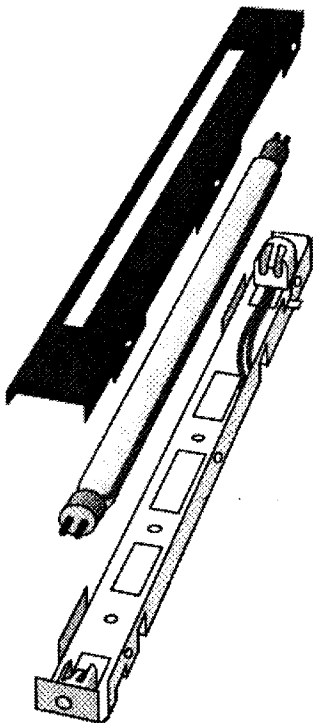

Fig. 5.7 Removing the lamp from the lamp cover.
14. Remove the lamp cover and lift the lamp from the sockets (Figure 5.7).